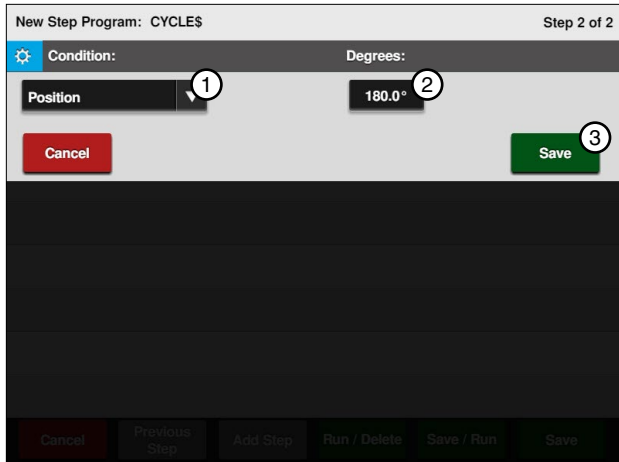

Figure 156-1 1. Position Condition 2. Degrees 3. Save
6. Program the position condition for this step. Refer to Figure 156-1.